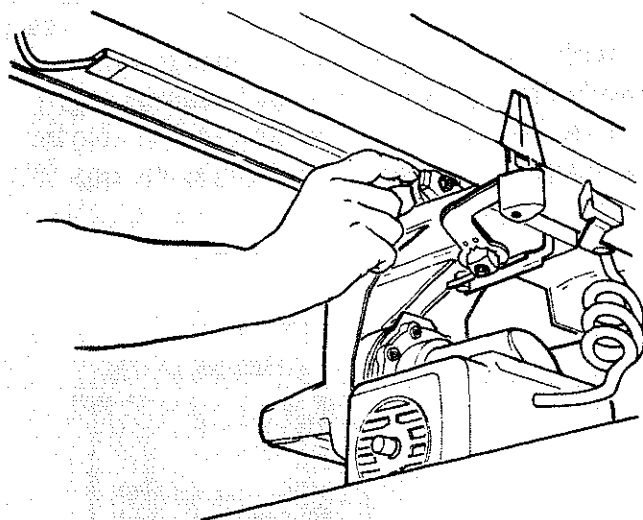

Fig. 181 - Front Carriage Bearings
3. Hold the *front carriage bearing* with your fingers as tight as possible and pull *carriage* forward at the same time. If you can prevent the *bearing* from turning an adjustment is required. (Figure 181)